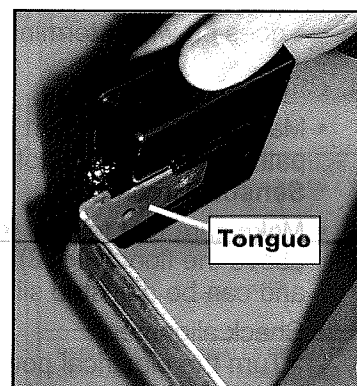

FIG. 3 Attaching STB's to brackets
- Slide Source/Sensor onto tongue of bracket until it clicks into place (**Fig. 3**).